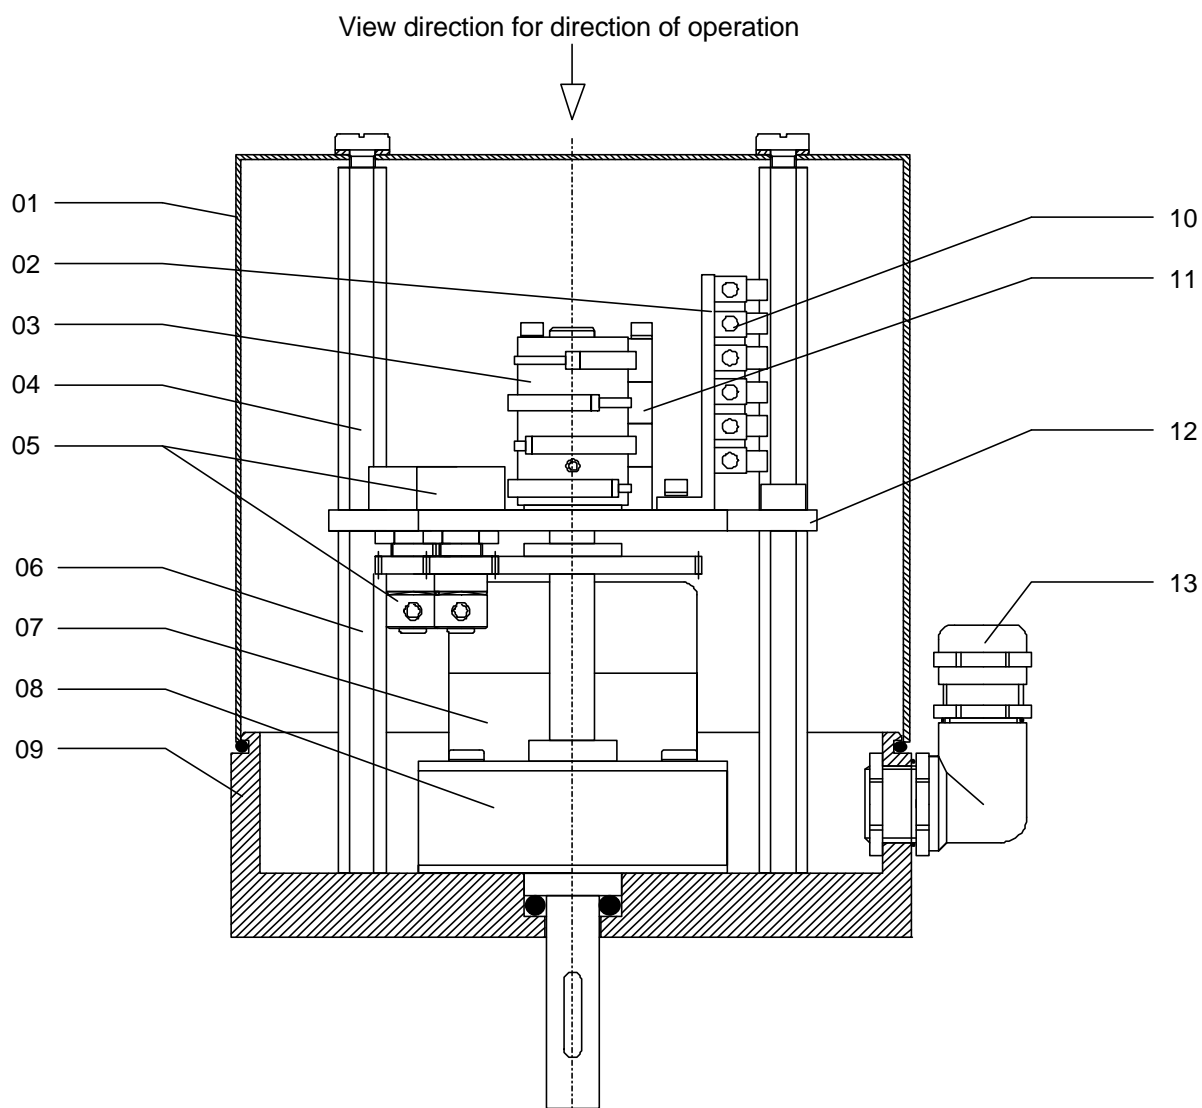

Bild 3
- Pay attention to the direction of operation: (view for the direction of operation: fig. 3)